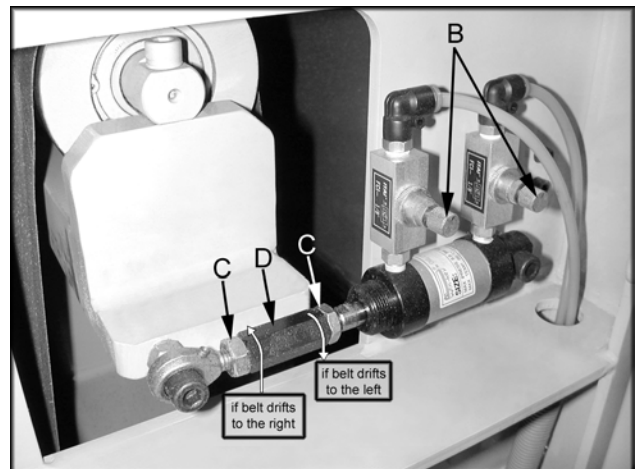

Figure 13
1. Start by turning both valves (B, Figure 13) clockwise to close completely. This will turn off the oscillation.
4. Once you have determined which way the belt is drifting loosen the two hex nuts (C, Fig. 13).
5. If belt is running too far to the left (viewed from back of sander) rotate the top of the turnbuckle (D, Figure 13) toward the user.
6. If belt is running to far to the right (viewed from back of sander) adjust the top of the turnbuckle (D, Figure 13) away from the user.